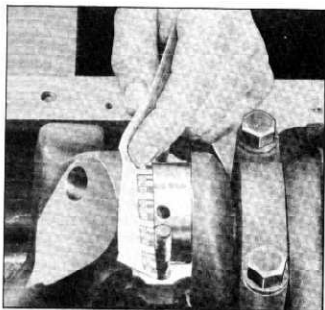

Fig. 71—Measuring Compressed Plastigage
- Remove the bearing cap and without removing the Plastigage, check its width at the widest point with the Plastigage scale (fig. 71).